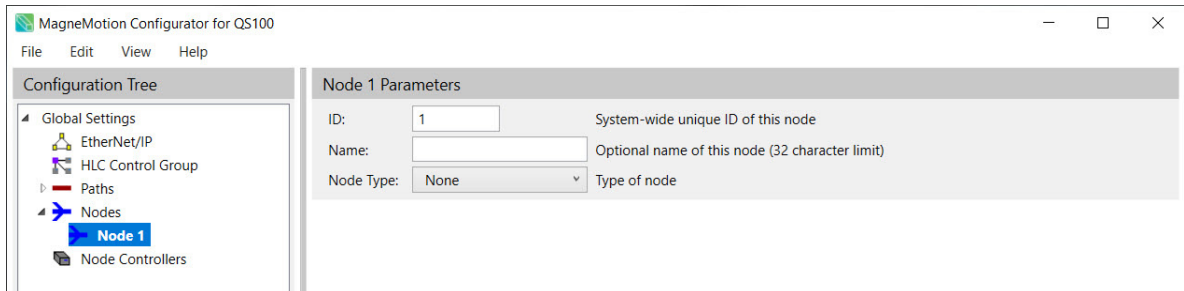

Figure 4-52: New (Undefined) Node Page
*The **Node Details** page for the selected node, see Figure 4-52, is displayed in the Configuration Settings Pane.*